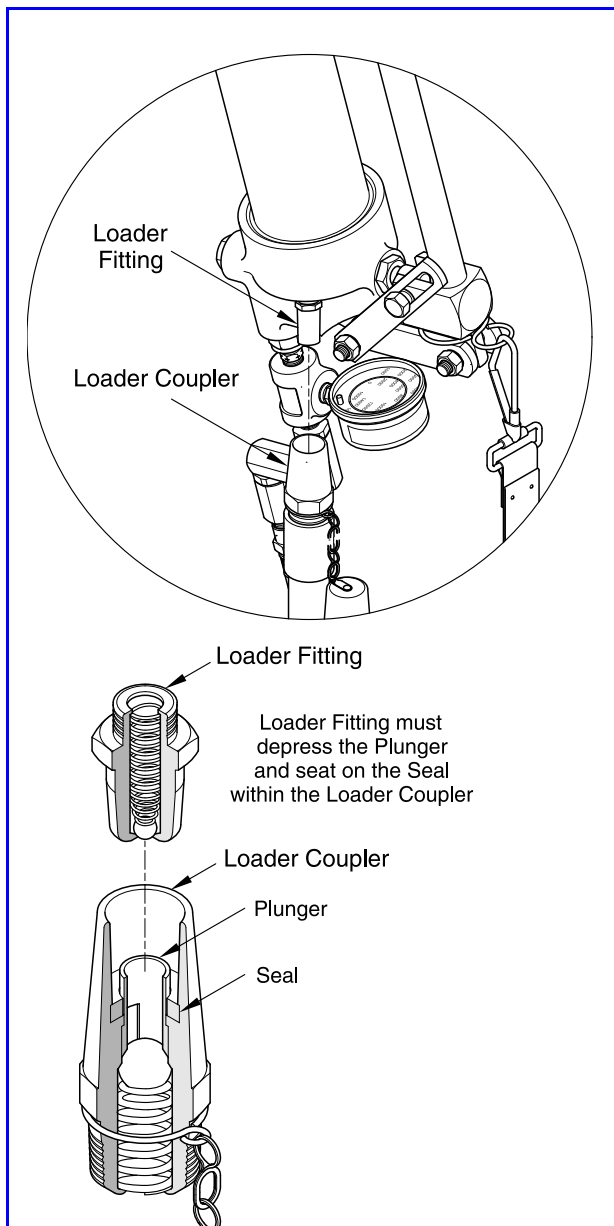

Figure 4 Loader Fitting and Loader Coupler Section View
Each gun is equipped with a Loader Fitting. This fitting allows the direct filling of grease from a hand-operated pump. See **Figure 4**.
- See **Figure 4**.